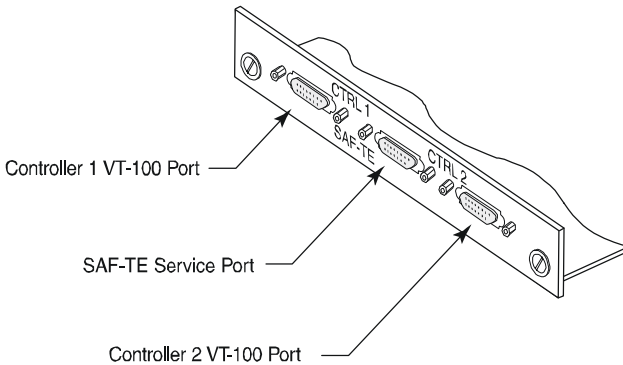

Figure 4-4 Connecting the RS-232 Cable
- 1 Connect one end of the null-modem RS-232 cable to the SAF-TE Service port located on the rear panel of the enclosure. Refer to Figure 4-4 on page 4-9. The cable is a female-to-female DB-9 null-modem cable.